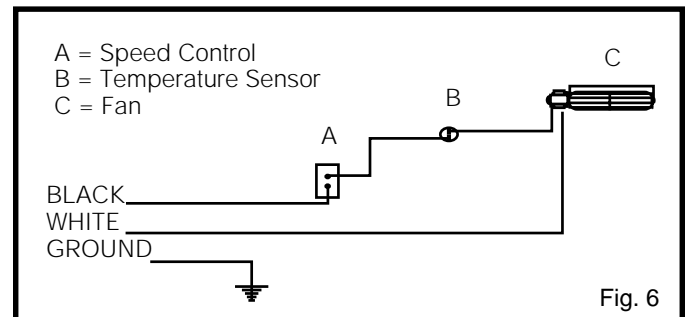

Fig. 6
***Should this fan require servicing, the power supply must be disconnected. For rewiring of any replacement components see Fig. 6.***